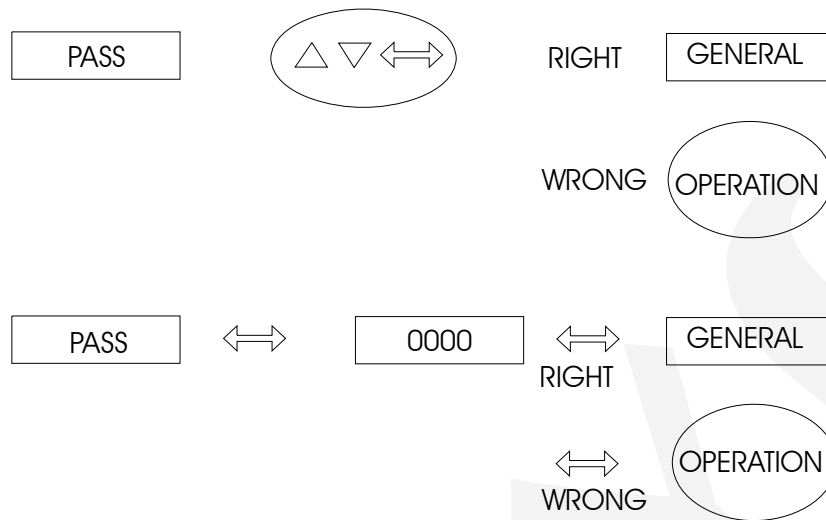

Figure 9 - Password through key sequence or value
- ii) To display the PASS warning, indicating that the instrument is provided with a password system (a key sequence or a value), according to figure 9.
For a value password, the user must press the ENTER key for a second time in order to view the number 0000 with the right end digit blinking. The position which is blinking indicates the digit to be changed by the user with the UP and DOWN keys. Move to the digits on the left by pressing ENTER. After entering all digits, press ENTER again. If the password is correct level 1 is accessed; otherwise, it returns to normal operation (see figure 9).